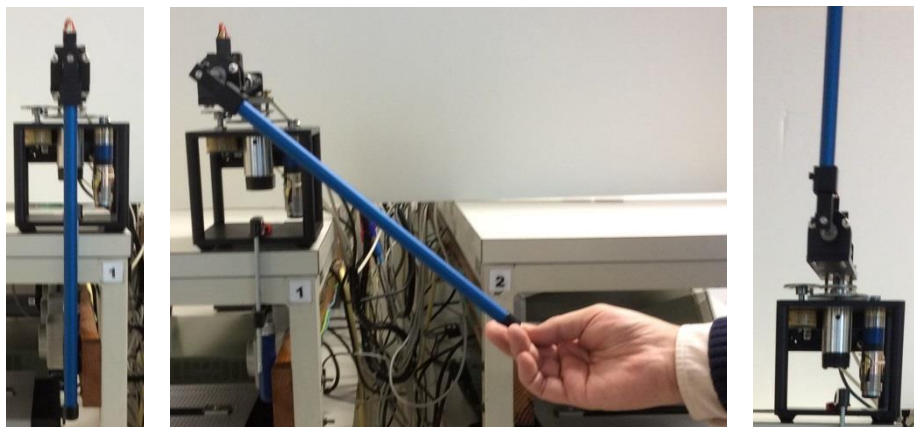
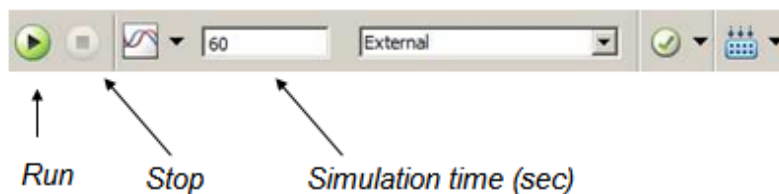

Figure 6 – Starting the experiments.
Fig. 7 – Buttons in the SIMULINK project.
- Place your pendulum in the vertical position, and such that it is perfectly still, as in the left picture of figure 6.
The sensors are calibrated and you now have 6 seconds to gently raise the pendulum to the vertical upwards position (as in figure 6 center) and keep it there. Then the controller will start working and you may remove your hand while the pendulum is equilibrated automatically (figure 6 right). Use the button ■ to stop the program or (preferably) wait for the time-out. See figure 7 to locate the buttons. Remark that there are start/stop buttons for MATLAB and for SIMULINK. Don't confuse them.